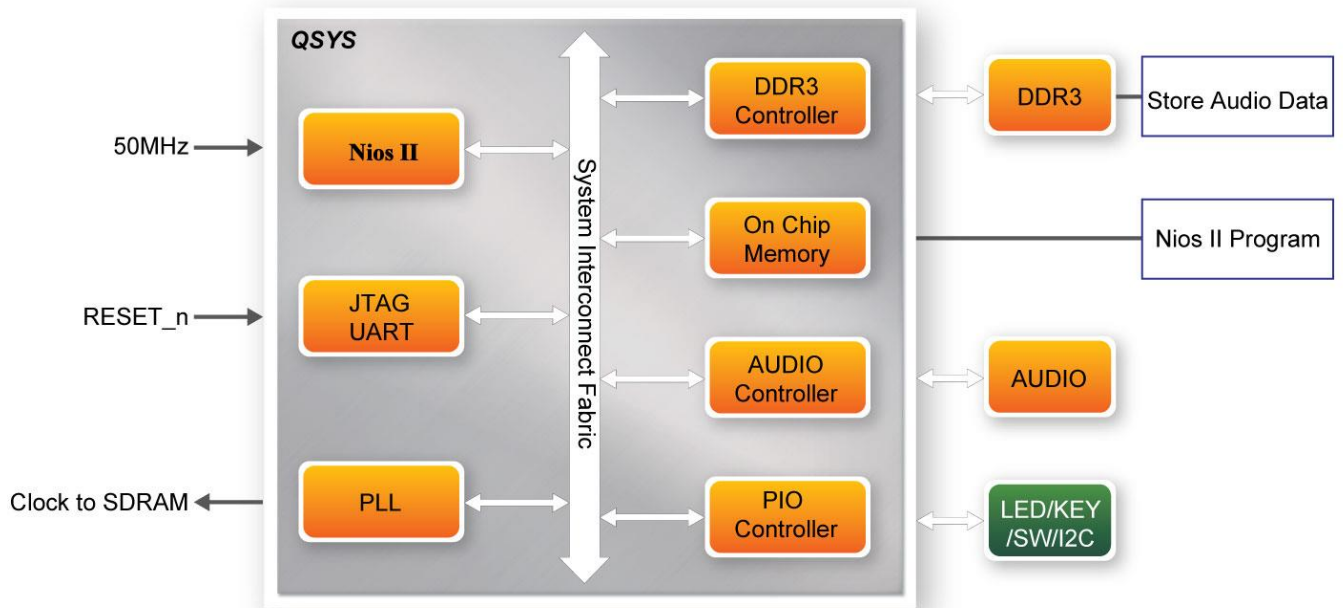

Figure 5-2 Block diagram of the audio recorder and player
**Figure 5-2** shows the block diagram of the Audio Recorder and Player design. There are hardware and software parts in the block diagram. The software part stores the Nios II program in the on-chip memory. The software part is built by Eclipse in C programming language. The hardware part is built by Qsys under Quartus II. The hardware part includes all the other blocks. The “AUDIO Controller” is a user-defined Qsys component. It is designed to send audio data to the audio chip or receive audio data from the audio chip.